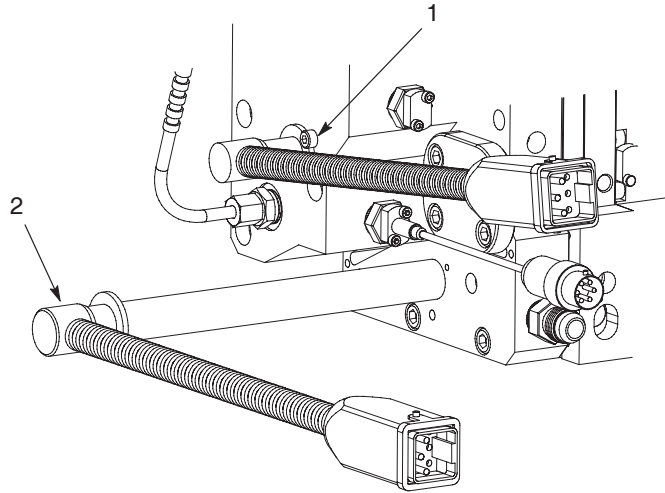

Figure 7-92 Removing a heater
2. See Figure 7-92. Using an M3 hex wrench, remove the screws that secure the heater and then carefully remove the heaters.